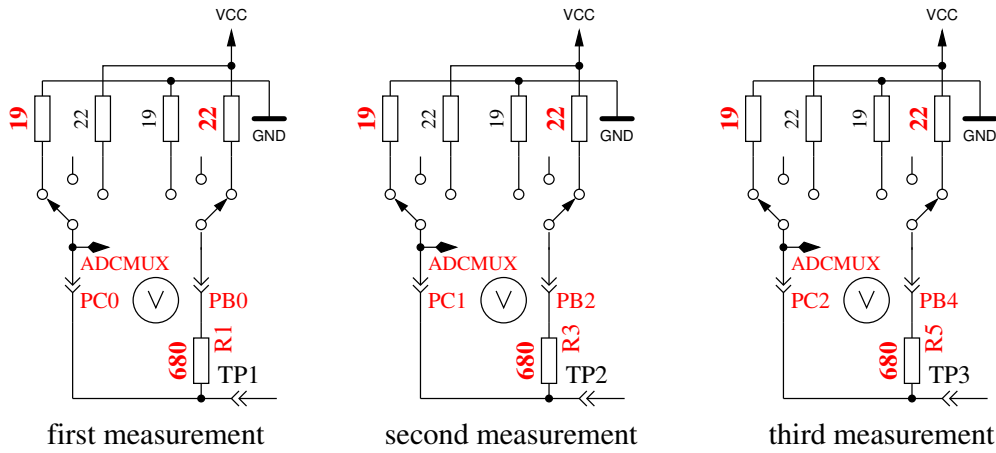

Figure 5.62. Measurement of internal resistance of Port C switched to GND
5. **This step tests the capability of GND (-) connected 470kΩ resistors (H) to pull the test pins to GND.** Row 1 shows the text “RH-”. Row 2 should display zero for all three pins.
6. **This step tests the capability of VCC (+) connected 470kΩ resistors (H) to pull the test pins to VCC (+).** Row 1 shows the text “RH+”. The results are shown als difference to VCC and should be near zero. Great differences from the best value for test 5 and 6 are errors such as isolation problem, flux material or damaged port.
8. **Measuring of internal resistance of pin output switched to the GND signal.** This test and the follwing tests will only be done, if the option AUTO_CAL is selected. The internal resistance of the port C outputs switched to GND (-) are measured with the current of to VCC (+) switched 680Ω resistors, see Figure 5.62. Only the three pins of the ADC port are measured, the resistor port B (PB0,PB2 and PB4) can not be measured without hardware modification. Is is assumed that the port resistance of the different ports are nearly identical. The resistor value will be shown in the next test.